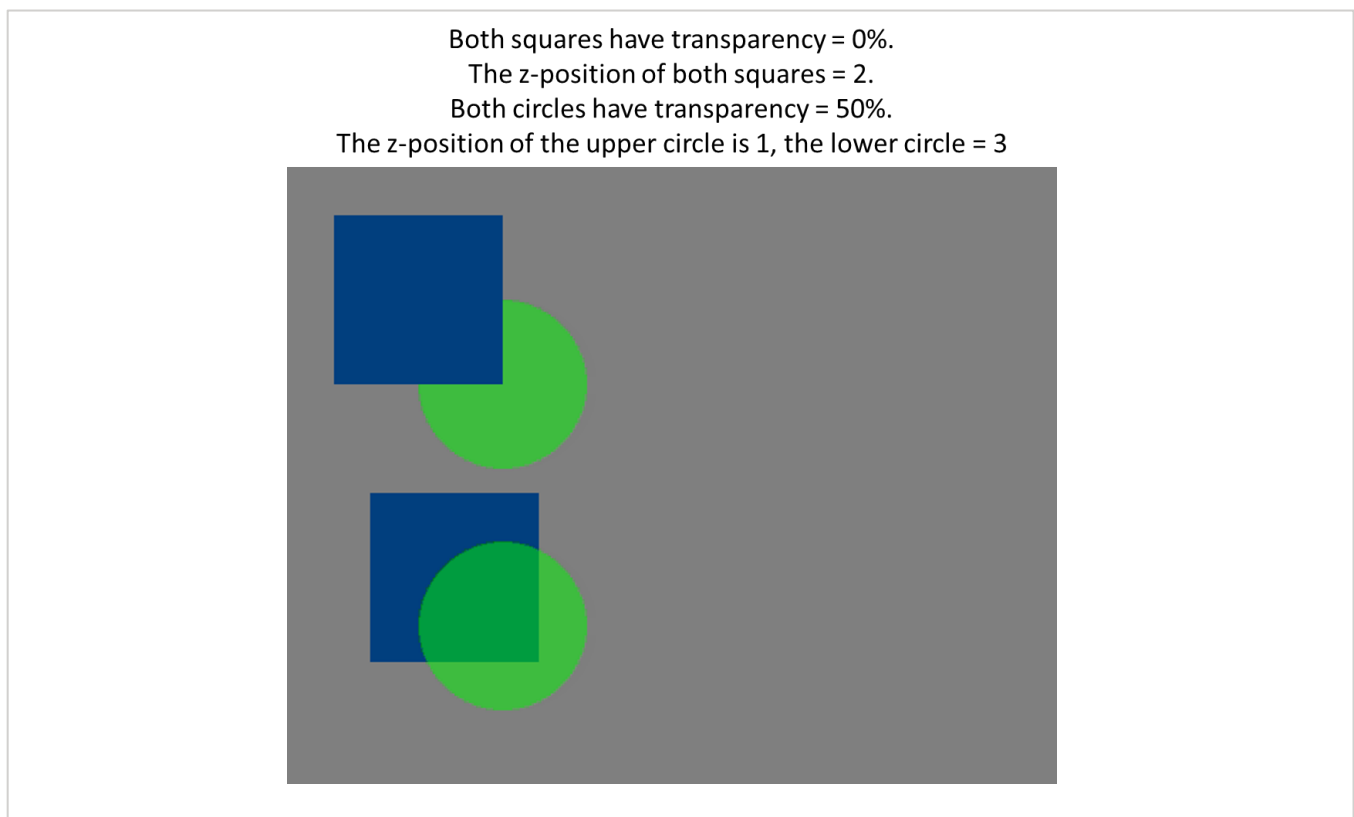

FIGURE 48: EXAMPLES OF OVERLAPPING SYMBOLS, ILLUSTRATING TRANSPARENCY AND Z-LOCATION
- Transparency, where a value of 0 represents an opaque symbol and a value of 127 represents a completely transparent symbol. Transparency values of 127-255 are invalid and have undefined behavior. Setting a transparency value greater than 0 allows a symbol to be shown without completely hiding the infrared imagery or other symbols behind it, as illustrated in Figure 48.
- Z-position, indicating a background ($z=0$) or foreground plane ($z=1-255$) used to determine precedence in the event of overlapping symbols. For example, a symbol with 0% transparency on the n^{th} plane will completely hide a symbol located on the $n-1$ plane, as illustrated in Figure 48. If two overlapping symbols have the same z-position, the behavior is undefined.